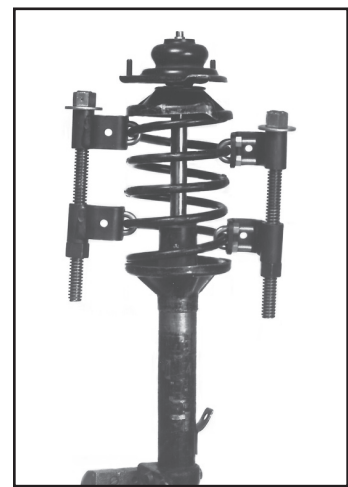

Figure 1
Step 4 - Now lubricate large bolt. The tool should now be on the spring ready to compress, see **Figure 1**.